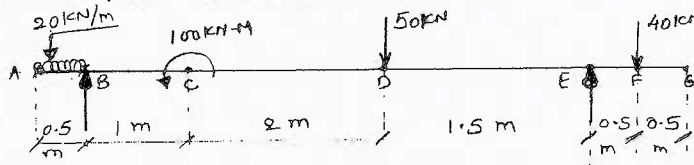

Fig.Q4(b) (14 Marks)
b. Draw shear force and bending moment diagram for the beam loaded as shown in Fig.Q4(b). Also locate the points of contra flexures.